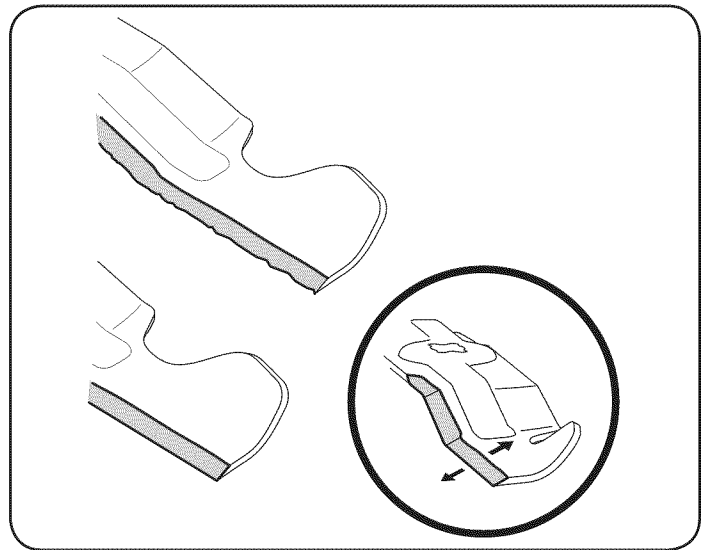

Figure 27
4. To properly sharpen the cutting blades, remove equal amounts of metal from both ends of the blades along the cutting edges, parallel to the trailing edge, at a 25°- to 30° angle. Always grind each cutting blade edge equally to maintain proper blade balance. See Figure 27.